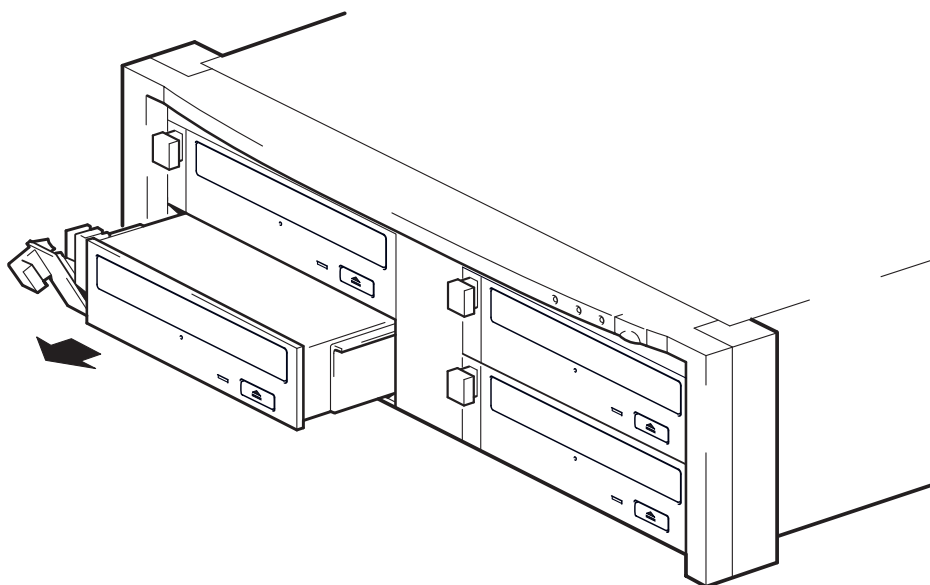

Figure 5b: removing the drive
- 2 Using the extraction lever, pull the drive gently and firmly out of the tape array. (See figure 5b.)